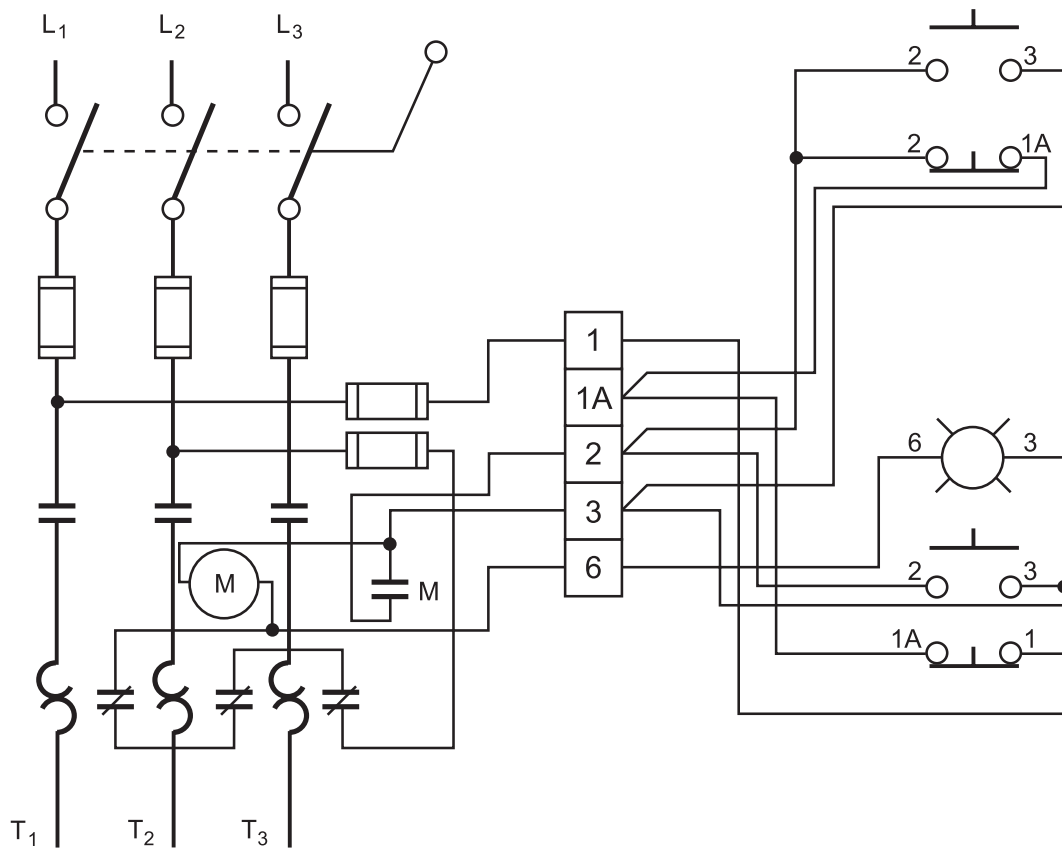
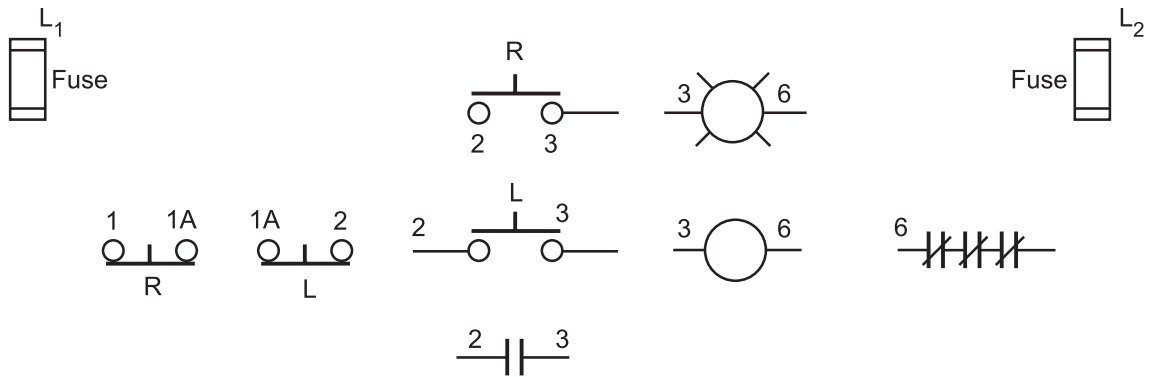

Figure 7—Wiring diagram for a motor control and motor power circuit
Figure 10—Labelling control components
The wiring diagram in Figure 7 shows the relative positions of all components in the control circuit and in the power circuit. The power circuit is identified by its somewhat heavier lines and by the fact that the motor load current passes through each of its components. All components are electrically connected in the least complex way possible.
To convert the wiring diagram in Figure 7 to a schematic diagram, follow these basic rules:
3. Place the identifying wire numbers used in the wiring diagram of Figure 7 on each component, as shown in Figure 10.